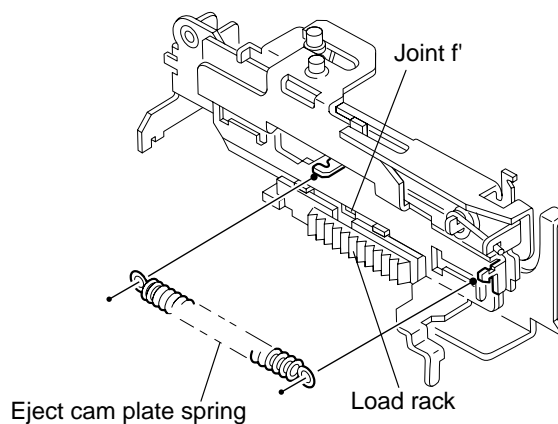

Fig.35
■ Removing the side bracket assembly (See Fig.35 to 39)